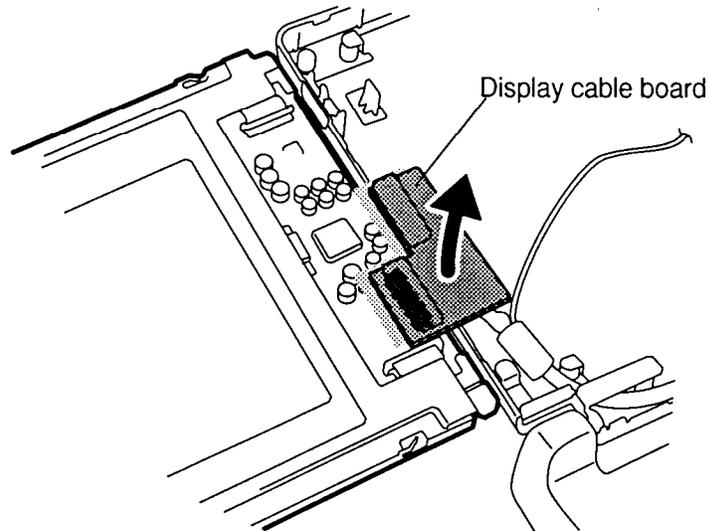

Figure 4-37 Removing the LCD module
4. Rotate the **LCD module** out of the cover from right to left (figure 4-37).
5. Disconnect the **display cable board** from the **LCD module** (figure 4-37).
2. Connect the **display cable board** to the LCD module (figure 4-37).